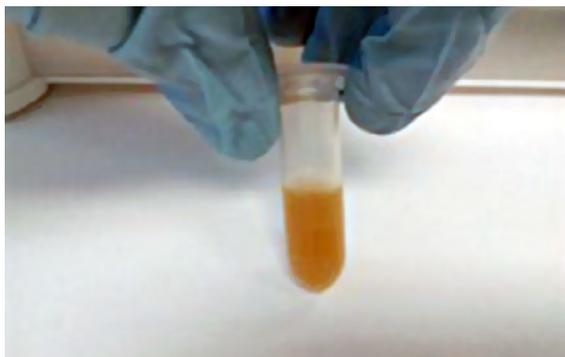

Figure 3. Microspheres resuspended in 1 mL activation/coupling buffer (step 2)
2. Add 1 mL activation/coupling buffer and mix thoroughly (**Figure 3**).